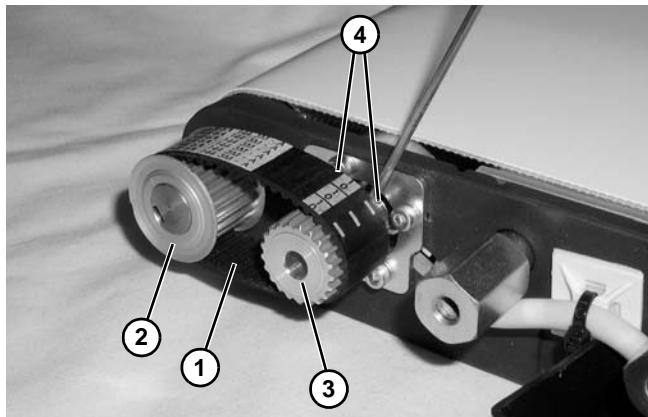

Figure 64
3. Slip timing belt (**Figure 64, item 1**) over driven pulley (**Figure 64, item 2**) and slide drive pulley (**Figure 64, item 3**) through timing belt onto gearmotor shaft.
4. Tighten drive pulley set screws (**Figure 64, item 4**) on gearhead shaft, making sure one set screw is over flat on shaft, and drive pulley is aligned with driven pulley.